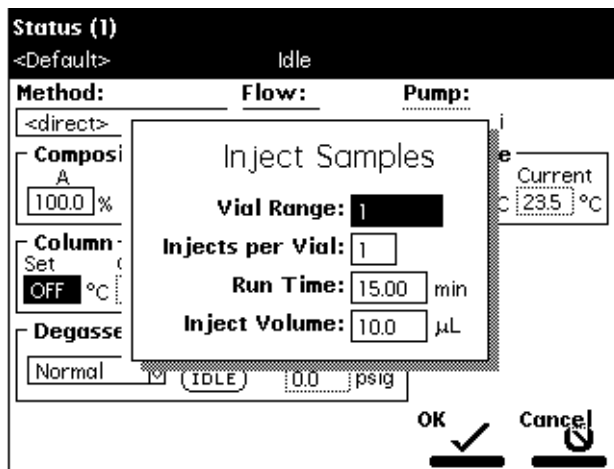

Figure 4-16 Inject Samples Dialog Box
5. Select the **Inject Samples** option, then press **Enter**. The Inject Samples dialog box appears (see Figure 4-16).